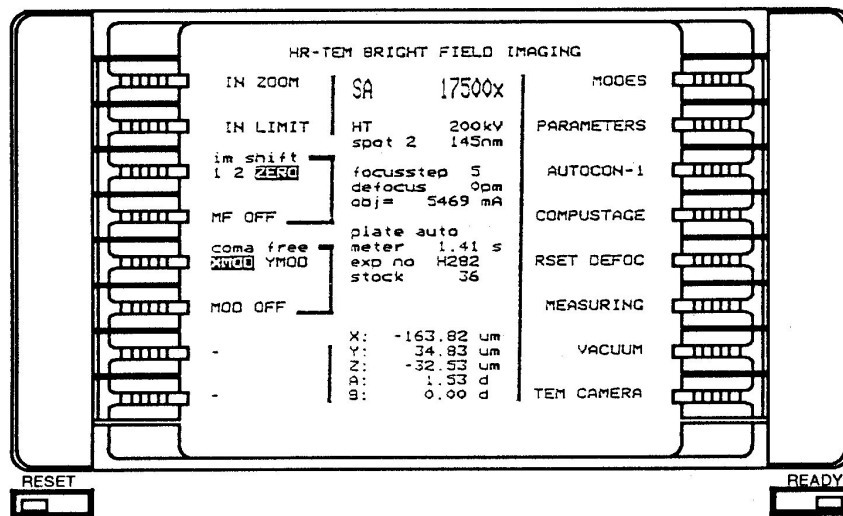

Fig. 1.6, TEM BRIGHT FIELD page
- Key TEM a second time and the TEM BRIGHT FIELD page will be displayed (see Fig. 1.6 overleaf).